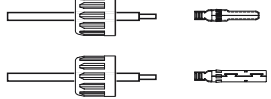

Figure 5.12 Insert the Wire into the Connector Cap nut and contact pin
2. Insert the wire into the connector cap nut and contact pin. (see Figure 5.12)